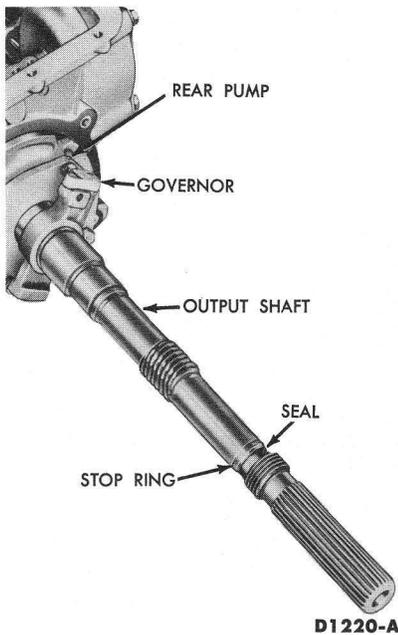

FIG. 3—Output Shaft and Governor
3. Remove the governor (Fig. 3) and the governor drive ball.
7. Remove the governor pressure seal rings from the output shaft (Fig. 3).